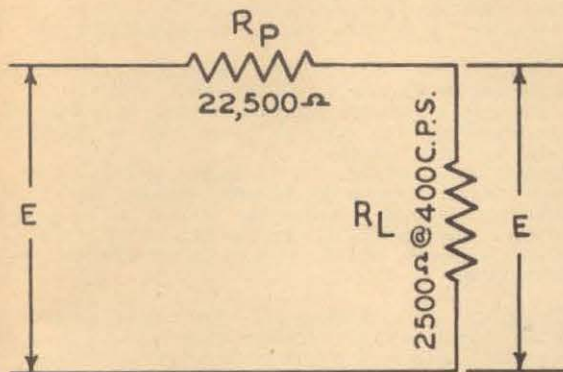
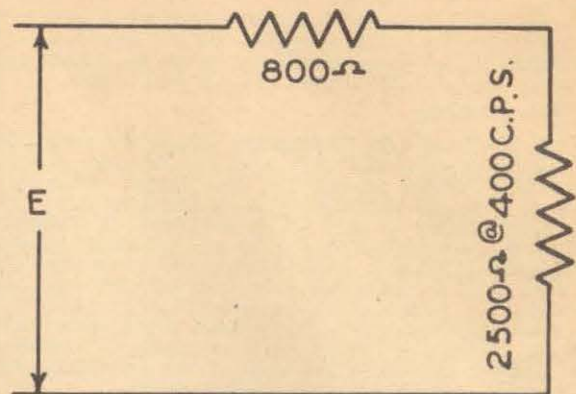

FIG. 3
FIG. 4
**REDUCTION OF PLATE RESISTANCE:** In addition to the reduction in distortion obtained by inverse feedback, there is also a reduction in the effective plate resistance of the tubes. A high plate resistance is a definite disadvantage in the case of a power tube which operates into a speaker load which is more or less variable depending upon the impedance of the voice coil. In the circuit of Fig. 3, it may be easily seen that the voltage  $E$  developed across the load depends a great deal upon the actual value of  $R_L$  which is the reflected impedance of the voice coil. This is due to the fact that the signal current depends almost entirely upon the high plate resistance of the tube. Since the load resistance is low in comparison to the plate resistance, the voltage developed across the load is almost directly proportional to the impedance of the load which varies appreciably with change in frequency. In Fig. 4 it may be seen that the voltage across the load does not vary so much since the signal current depends both upon the load and upon the plate resistance of the tube. If the voice coil has an appreciable amount of reactance, the impedance rises with the frequency, causing distortion and giving an unnatural amount of "highs". The high plate resistance is unsuitable from another viewpoint, that of the amount of low frequency distortion which may be tolerated. This low frequency distortion is not due to the tubes which remain unchanged regardless of the frequency, but depends upon the magnetizing current in the output transformer. The magnetizing current is a distorted nonsinusoidal wave and this current, on flowing through the high plate resistance of the tube, develops a nonsinusoidal voltage drop across the tube which, when subtracted from the input signal, results in a distorted wave across the output. Unfortunately, most amplifiers today are measured for distortion at 400 cps where the magnetizing current is practically negligible. It is not uncommon to find beam power amplifiers without inverse feedback which have only 25 per cent of the rated power at 40 or 50 cycles. This low frequency distortion is particularly objectionable since